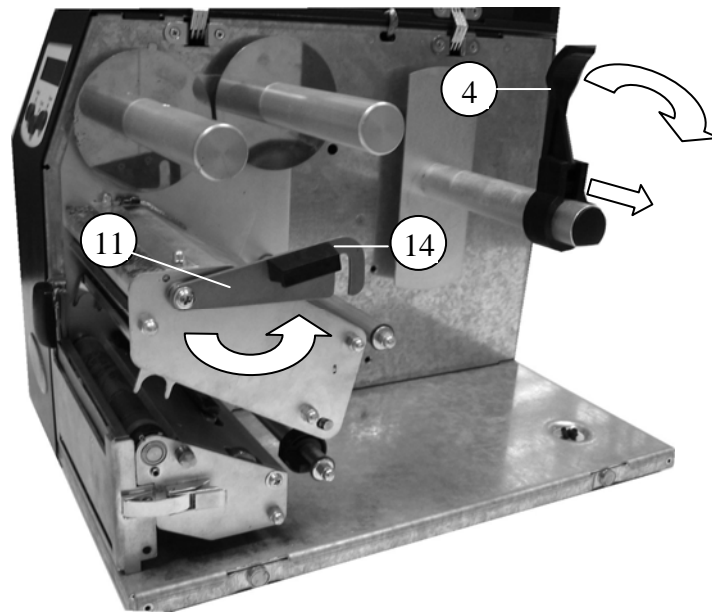
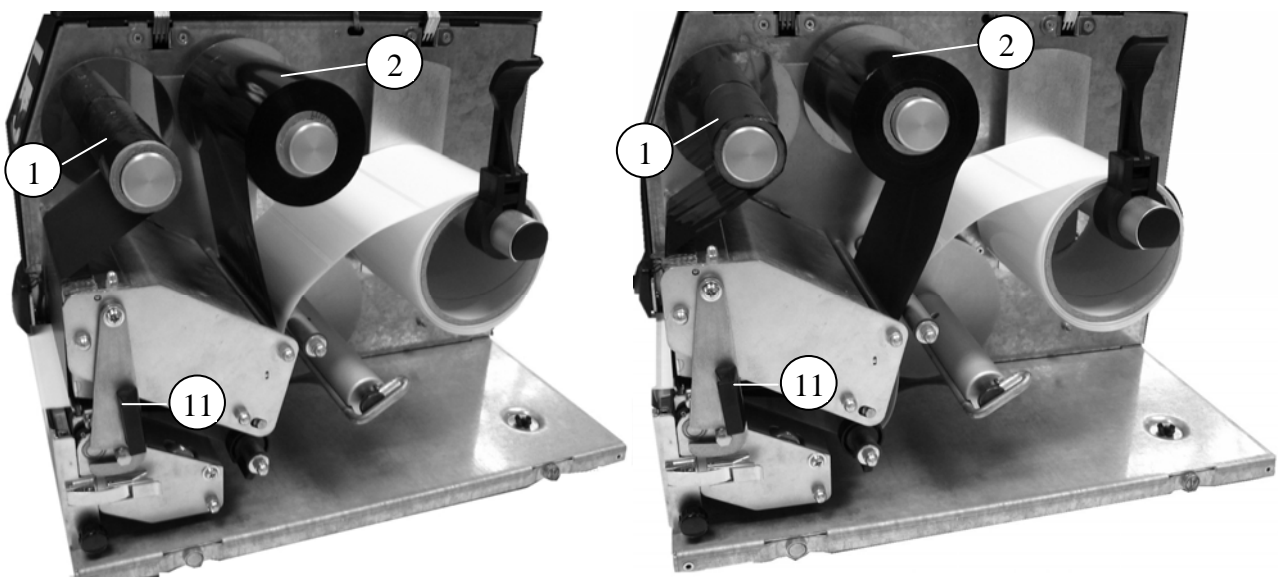

Fig. 11 – Preliminary steps in loading label roll
Fig. 17 – Loading of ribbon
- Move the label roll lock lever (4) to the horizontal position and move it towards the external end of the roll shaft, according to the width of the roll that will be installed.
- Move the print head lock lever (11) to the open position (14) (see Fig. 11).
- Move the print head lock lever (11) to the open position (14) (see Fig. 11 on page 20).
- Insert the ribbon roll in the new ribbon unwinder (2).
- Insert an empty cardboard core in the printed ribbon rewinder (1).
- Then feed the free end of the ribbon under the first and second media rollers, under the print head, and then onto the cardboard core installed on the printed ribbon rewinder (1), taking care not to block the paper sensor.
- Manually wind the free end of the ribbon onto the printed ribbon rewinder (1) and manually turn it until the ribbon is taut and straight.
- Move the print head lock lever (11) to the closed position (13) as shown in Fig. 17.